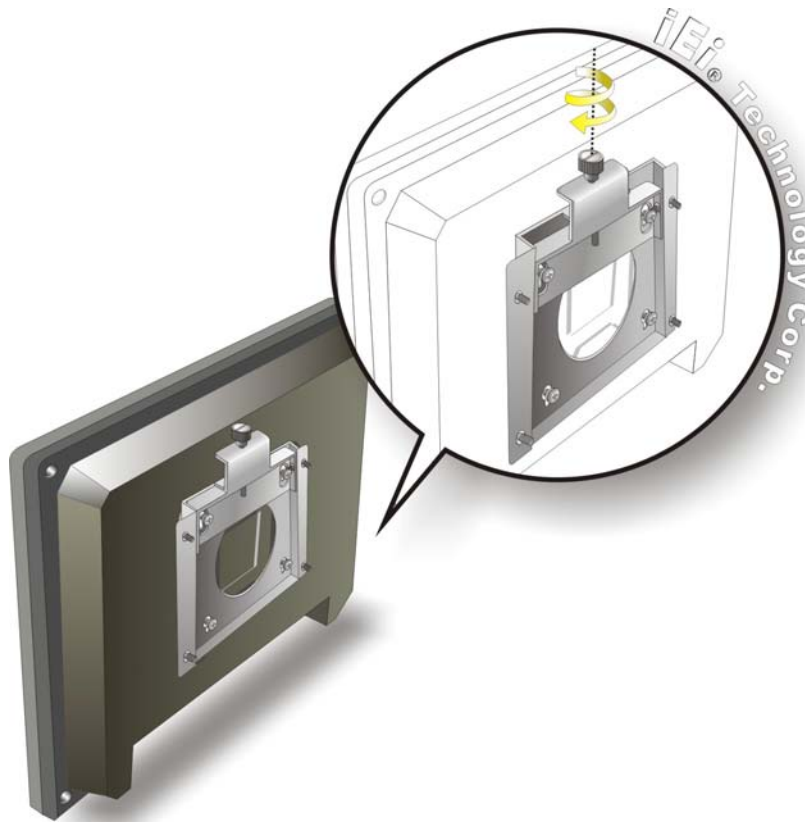

Figure 2-23: Secure the Panel PC
Step 9: Secure the panel PC by fastening the retention screw of the wall-mounting bracket. (Figure 2-23).